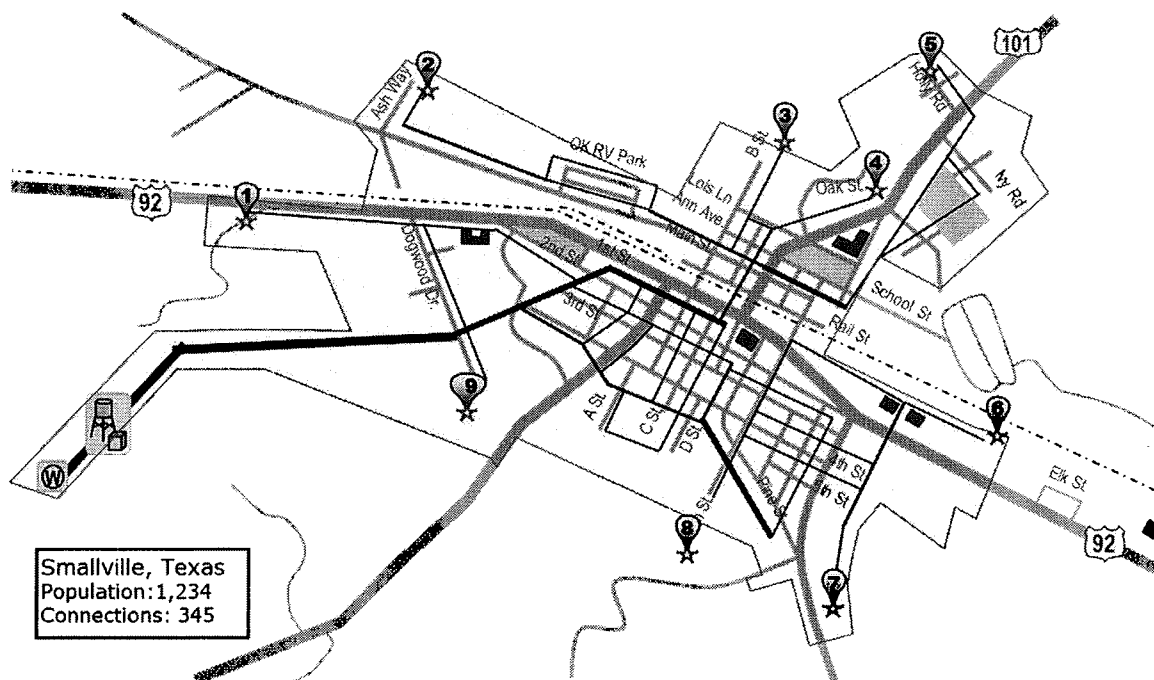

Figure 8. Map of example public water system, Smallville, containing all the identified flush locations.
- Identify the flush locations and draw them on a map (see Figure 8).